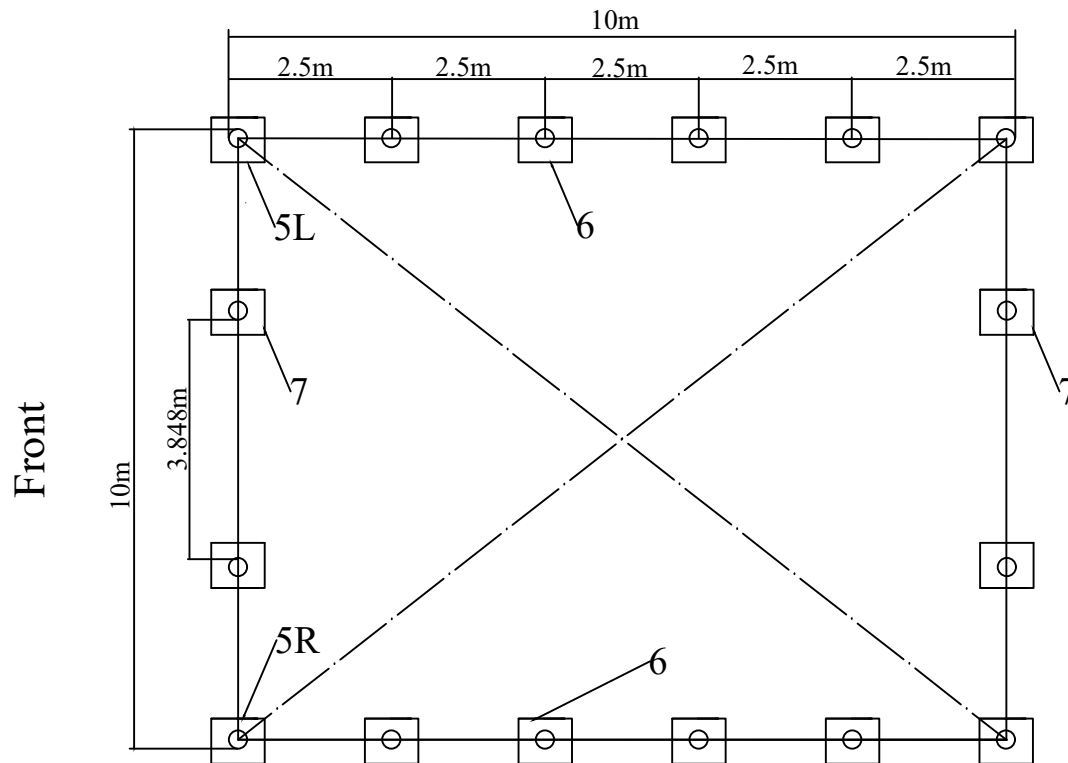

Figure 2 Position of Base Flanges
Begin by determining exact location of the four (4) corners of the building. Mark front edge and side-to-side width of assembly on ground. Drive alignment stakes into the ground outside of the markings, and draw alignment strings along both ends and sides of the building to the dimensions shown in Figure 2. The outline of the strings will represent the final location of the base flanges. The initial location of each Corner Base Flanges is critical to the alignment and fit of the frame components and cover.
Locate the Left Corner Base Flange and Right Corner Base Flange. Secure the base flanges with Stake Pegs. Measurements shown in Figure 2 are to the center of the upright sockets on each Base Flange.